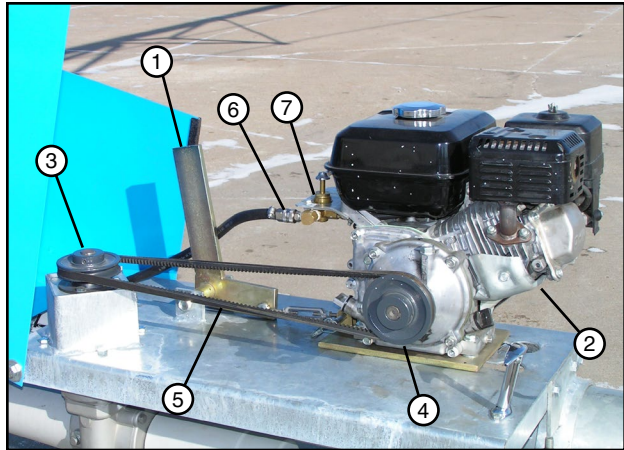

Figure 24-1 1. Direct Drive Handle 2. Engine 3. Center Drive Pulley 4. Engine Pulley 5. V-belt 6. Auxillary Fuel Hose Quick Disconnect 7. Fuel Valve
4. Push direct drive handle toward engine to engage center drive and engine pulleys with v-belt. See figure 24-1.
5. Connect the auxiliary fuel tank hose to the engine at the quick disconnect fitting. See figure 24-1.
6. Move the three way fuel valve lever to the desired fuel tank position. See figure 24-1.